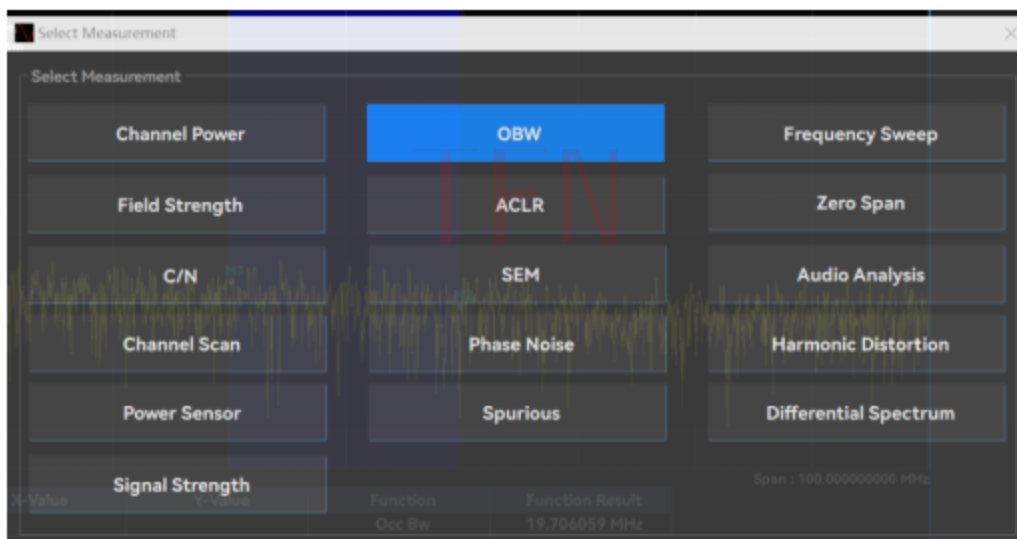

Figure 5.8 Select the measurement interface diagram
- Press [Measurement] and select the [frequency scan] test function for the interface display as shown in Figure 5.8: